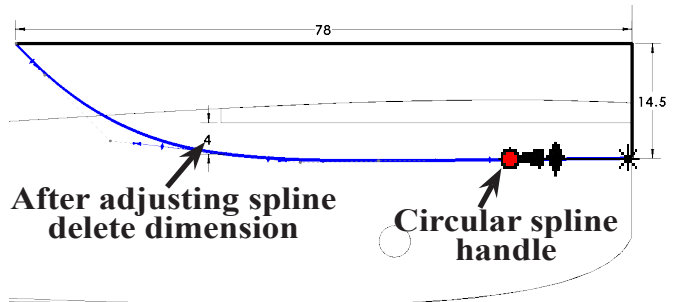
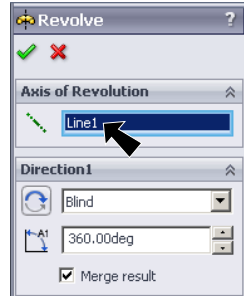
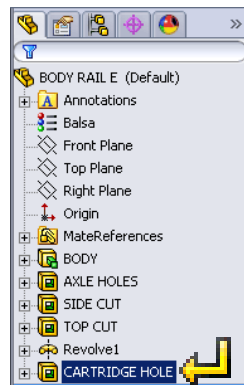
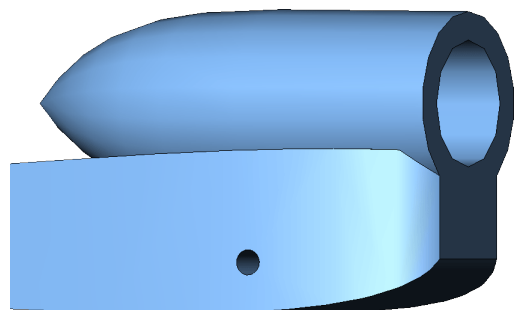

Fig. 37
Fig. 39
Fig. 43
Fig. 44
Step 15. Click the spline to select it. First, adjust the **Circular Spline handle** (small gray dot) of rear spline point to straighten the spline, then adjust the other spline points, **Fig. 37**.
Step 16. After adjusting the spline, **delete the 4 dimension, Fig. 37 and Fig. 39**. To delete, click dimension and press Delete key. Important to delete this dimension as it creates a relation which will not allow the cartridge hole cut feature to be move down below this revolve feature (see Fig. 43).
Step 23. In the Feature Manager move the **CARTRIDGE HOLE** feature below Revolve1 feature. To move the feature, drag **CARTRIDGE HOLE** down, when the yellow pointer is over Revolve1 release, **Fig. 43** and **Fig. 44**.